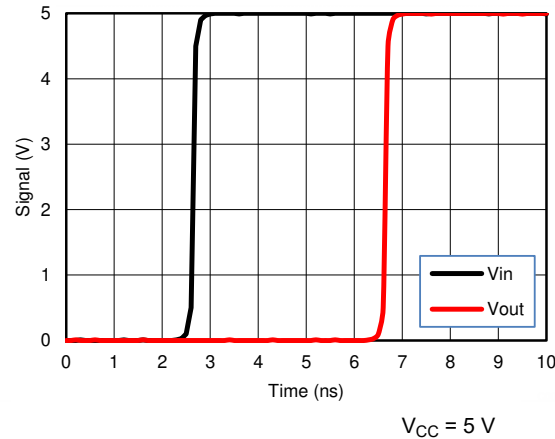

Figure 8-2. Simulated Input-to-Output Voltage Response Showing Propagation Delay
- Figure 8-2 illustrates the effects of frequency on output current.